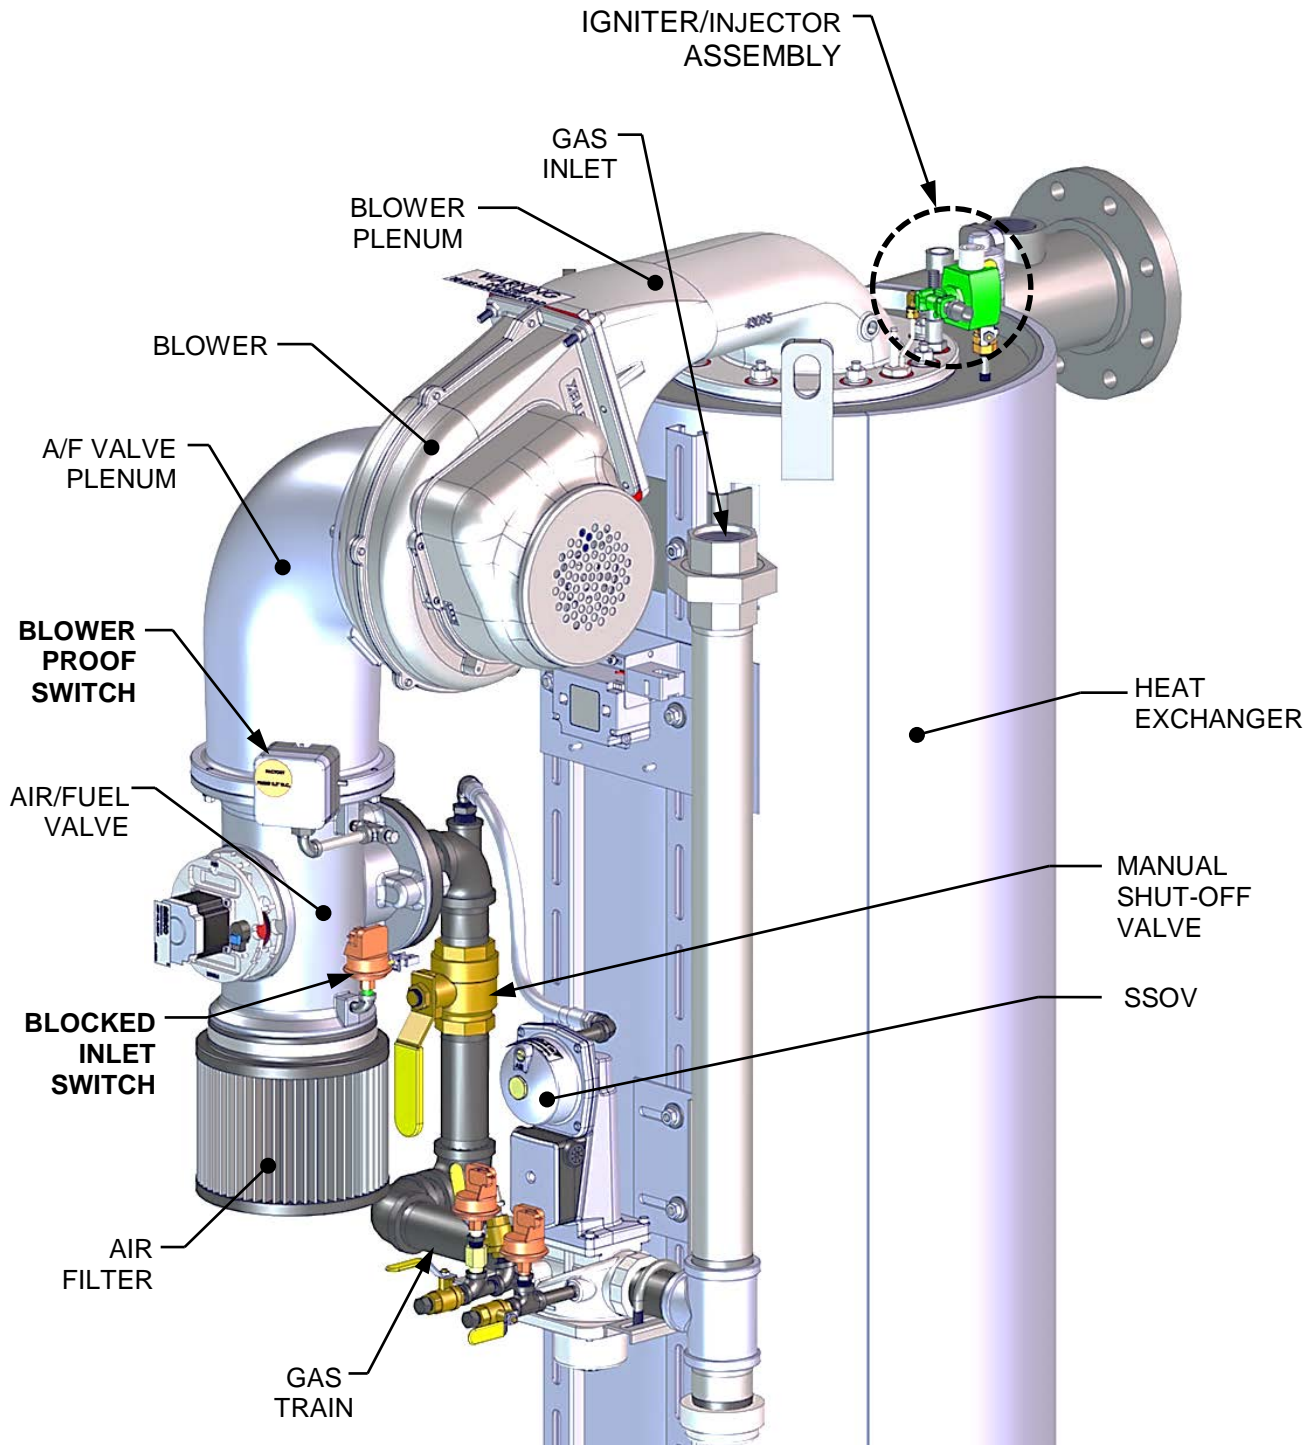

Figure 5-6a: Bare Boiler – Partial View – BMK 1500 – 3000 Shown
These tests check the operation of the **Blower Proof** switch and **Blocked Inlet** switch shown in Figure 5-6a and 5-6b.
2. Remove the air filter (see Figure 5-6a or 5-6b, above).